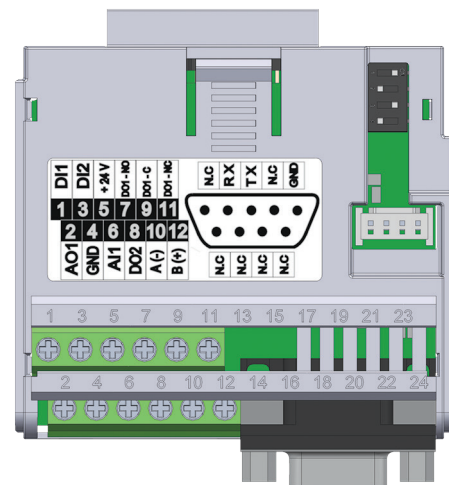

Figure 20.2: Plug-in module CFW500-CRS232
The CFW500-CRS232 plug-in module has Serial (1) interface through RS-485 port at terminals 10 (A-) and 12 (B+), as well as the Serial (2) interface through RS-232 port at standard connector DB9, see Figure 20.2 on page 20-1.